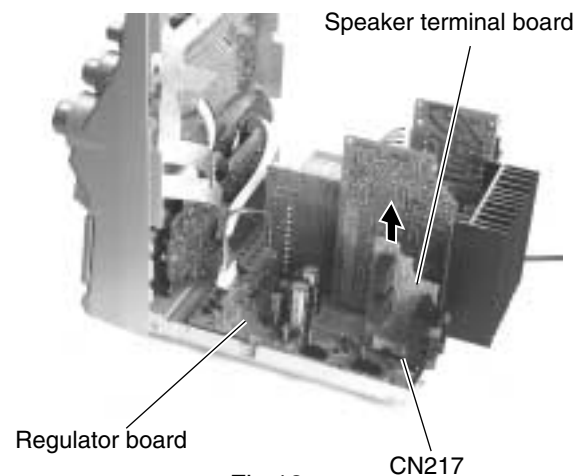

Fig.18
■ Removing the speaker terminal board (See Fig.18)